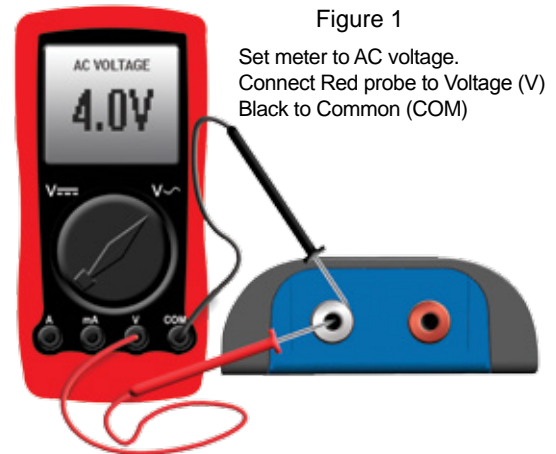

Figure 1
3. Choose either left or right channel - With multi-meter, test output of LP7-2. Probe with negative on RCA shield and positive in center of RCA output. (figure 1)